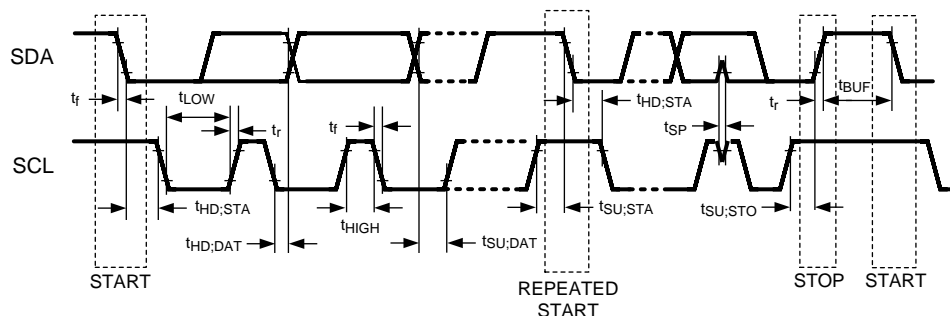

Figure 5. Serial Control Bus Timing
(6) UI – Unit Interval is equivalent to one ideal serialized data bit width. The UI scales with PCLK frequency.
(9) Specification is ensured by characterization and is not tested in production.
**Bi-Directional Control Bus AC Timing Specifications (SCL, SDA) - I2C Compliant (Figure 5)**
### Bi-Directional Control Bus AC Timing Specifications (SCL, SDA) - I2C Compliant (Figure 5) (continued)